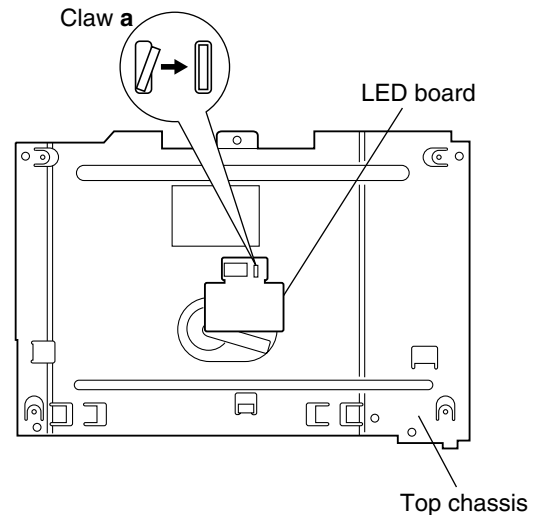

Fig.1
■ Removing the LED board (See Fig. 1.)